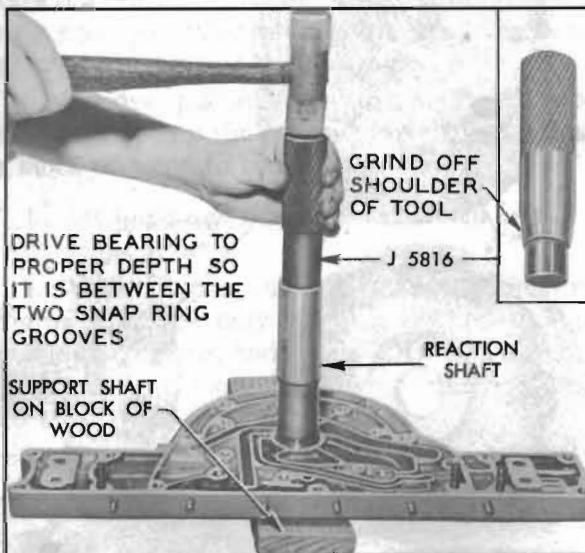

Figure 5-68—Installing Input Shaft Bearing
1. If old input shaft bearing was removed, first make sure that inner retaining ring is firmly seated in groove in reaction shaft, then install a new bearing using Installer J 5816. Support shaft on wooden block to avoid damage and drive bearing into place with light hammer until shoulder of tool contacts reaction shaft. See figure 5-68. Install outer retaining ring.